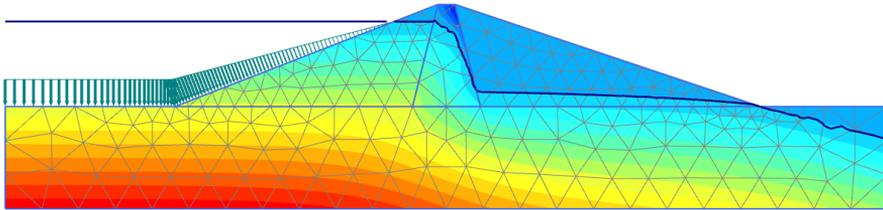

Figure 8.14 Pore pressure distribution, (p_{active}), for high reservoir level
The results of the four groundwater flow calculations in terms of pore pressure distribution are shown in Figures 8.14 to 8.17. Four different situations were considered:
- The steady-state situation with a high (standard) reservoir level (Figure 8.14).